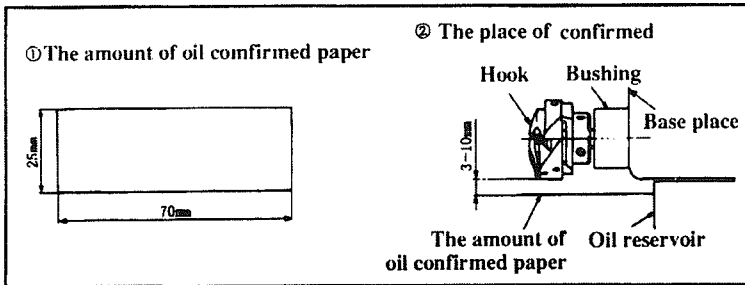
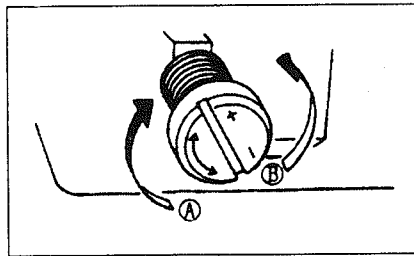

Fig. 7
Fig. 9
3.ADJUSTING THE AMOUNT OF OIL SUPPLIED TO THE HOOK (Fig.7, Fig.8, Fig.9)
- 1) After cooling, the machine may be idling for three minutes (operating continued properly). (Fig.7)
● **Adjusting the amount of oil supplied to the hook (Fig.9)**